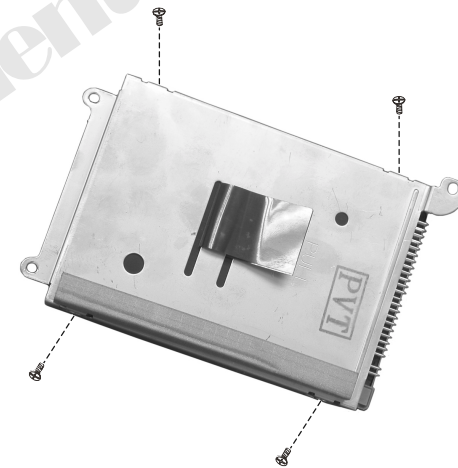

Figure 2-8 Free the HDD driver
3. Remove four screws to separate the hard disk drive from the bracket, free the hard disk driver. (Figure 2-8)